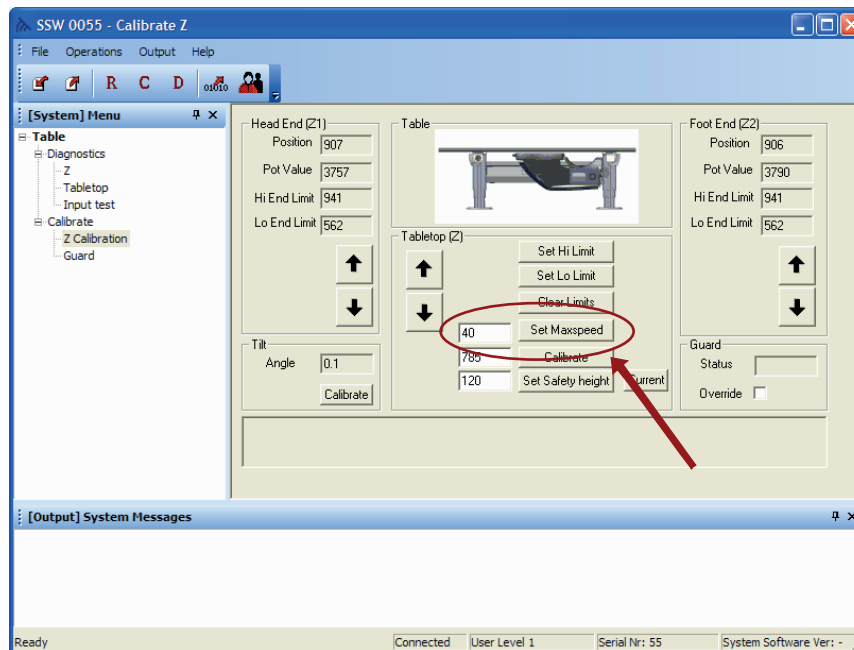

Fig. 5-161 Calibration Table Max Speed
2. Enter the new speed value (mm/sec) in the *Edit* box beside the *Set Max Speed* button, see Fig. 5-161 *Calibration Table Max Speed*. Observe that 40 mm/sec is the maximum speed.